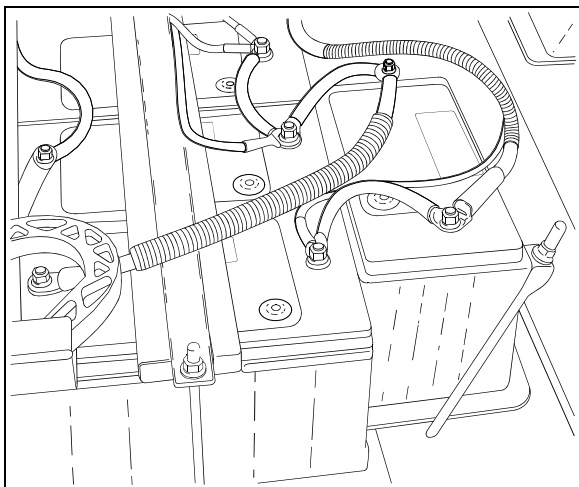
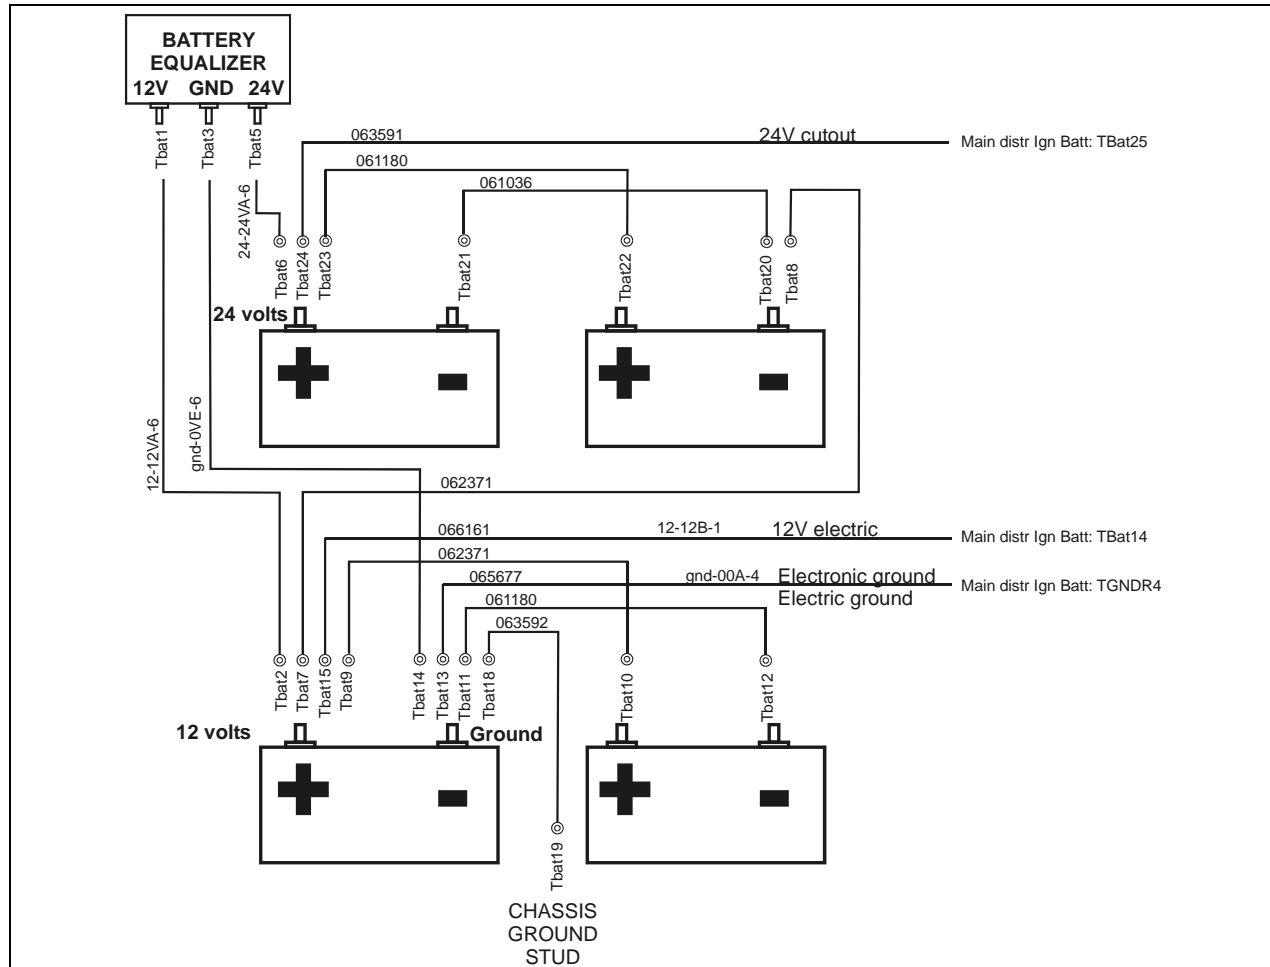

FIGURE 11: BATTERIES
FIGURE 12: BATTERY CONNECTIONS
The vehicle is provided with four (4) maintenance-free 12-volt heavy-duty batteries connected in series-parallel (Figure 11 & Figure 12). The top-mounted negative and positive terminals are tightly sealed to prevent leaks. Water never needs to be added to this type of battery. There are no filler caps in the cover. The battery is sealed, except for small vent holes in the cover. The vents must not be restricted as they allow small amounts of gases produced in the battery to escape. The special chemical composition inside the battery reduces gassing to a very small amount at normal charging voltages. Besides reducing gassing, the special chemistry greatly reduces the possibility of overcharge damage.